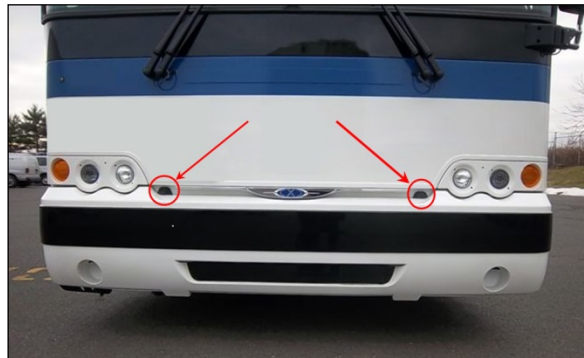

FIGURE 2: BUMPER TOP RETAINING BOLTS
2. Unscrew the top retaining bolts #5001878 to allow tilting of the bumper. (Fig. 2)